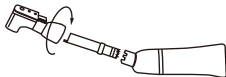

Fig. 14.1
- ① Loosen the curving lock section and remove the head from the sheath.
- ② Pull out the drive gear assembly from the head. [Fig. 14.1]